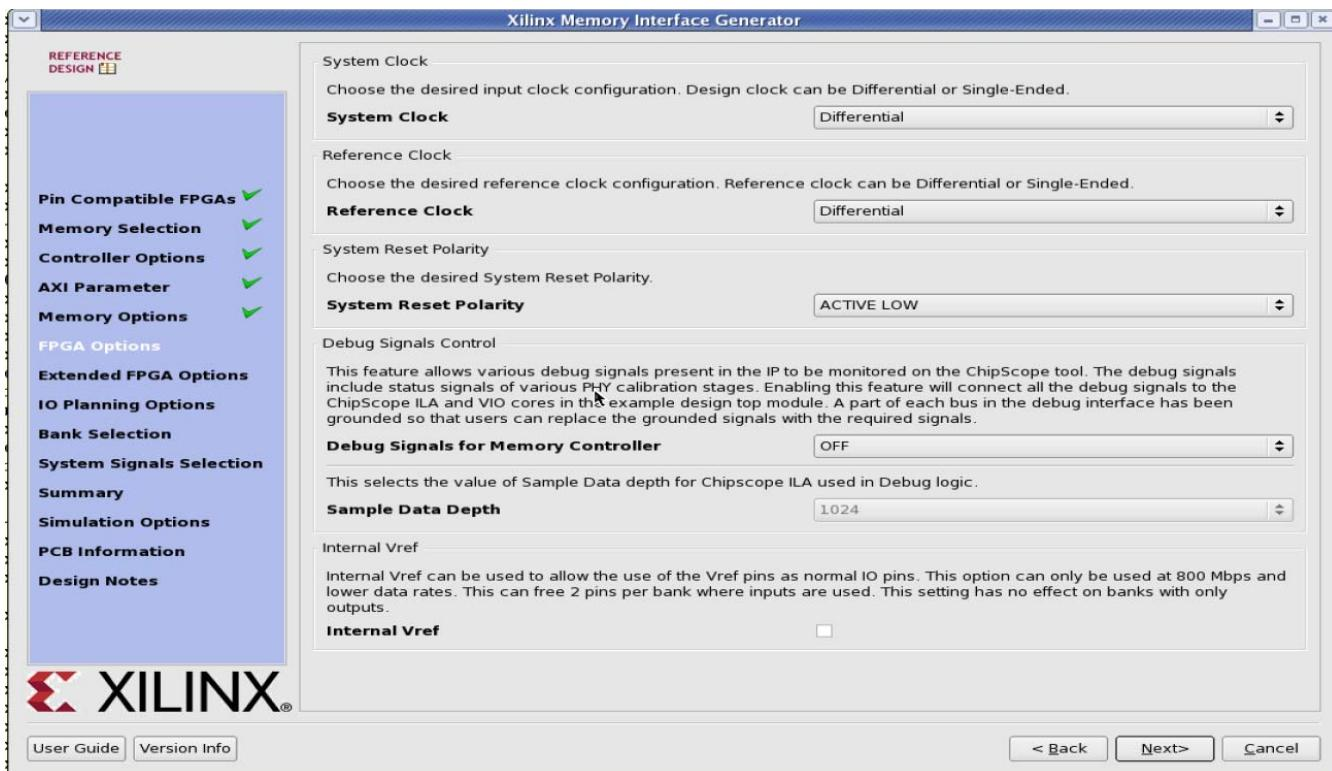

Figure 3-20: **FPGA Options Page**
Figure 3-20 shows the **FPGA Options** page.
- **sys\_clk** – This is the system clock input for the memory interface and is typically connected to a low-jitter external clock source. Either a single input or a differential pair can be selected based on the **System Clock** selection in the **FPGA Options** page (Figure 3-20). The sys\_clk input must be in the same column as the memory interface. If this pin is connected in the same banks as the memory interface, the MIG tool selects an I/O standard compatible with the interface, such as DIFF\_HSTL\_I or HSTL\_I. If sys\_clk is not connected in a memory interface bank, the MIG tool selects an appropriate standard such as LVCMOS18 or LVDS. The XDC can be modified as desired after generation.
- **clk\_ref** – This is the reference frequency input for the IDELAY control. This is a 200 MHz input. The clk\_ref input can be generated internally or connected to an external source. A single input or a differential pair can be selected based on the **System Clock** selection in the **FPGA Options** page (Figure 3-20). The I/O standard is selected in a similar way as sys\_clk above.
- **sys\_rst** – This is the asynchronous system reset input that can be generated internally or driven from a pin. The MIG tool selects an appropriate I/O standard for the input such as LVCMOS18 and LVCMOS25 for HP and HR banks, respectively. The default polarity of sys\_rst pin is active-Low. The polarity of sys\_rst pin varies based on the **System Reset Polarity** option chosen in **FPGA Options** page (Figure 3-20).